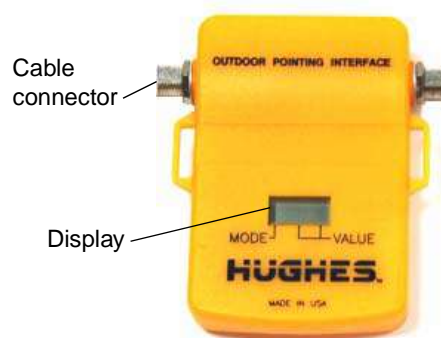

Figure 45: Outdoor Pointing Interface (OPI)
**OPI** The OPI, P/N 1031393-0002 (Figure 45) is a portable repeater that displays signal strength values during antenna pointing.